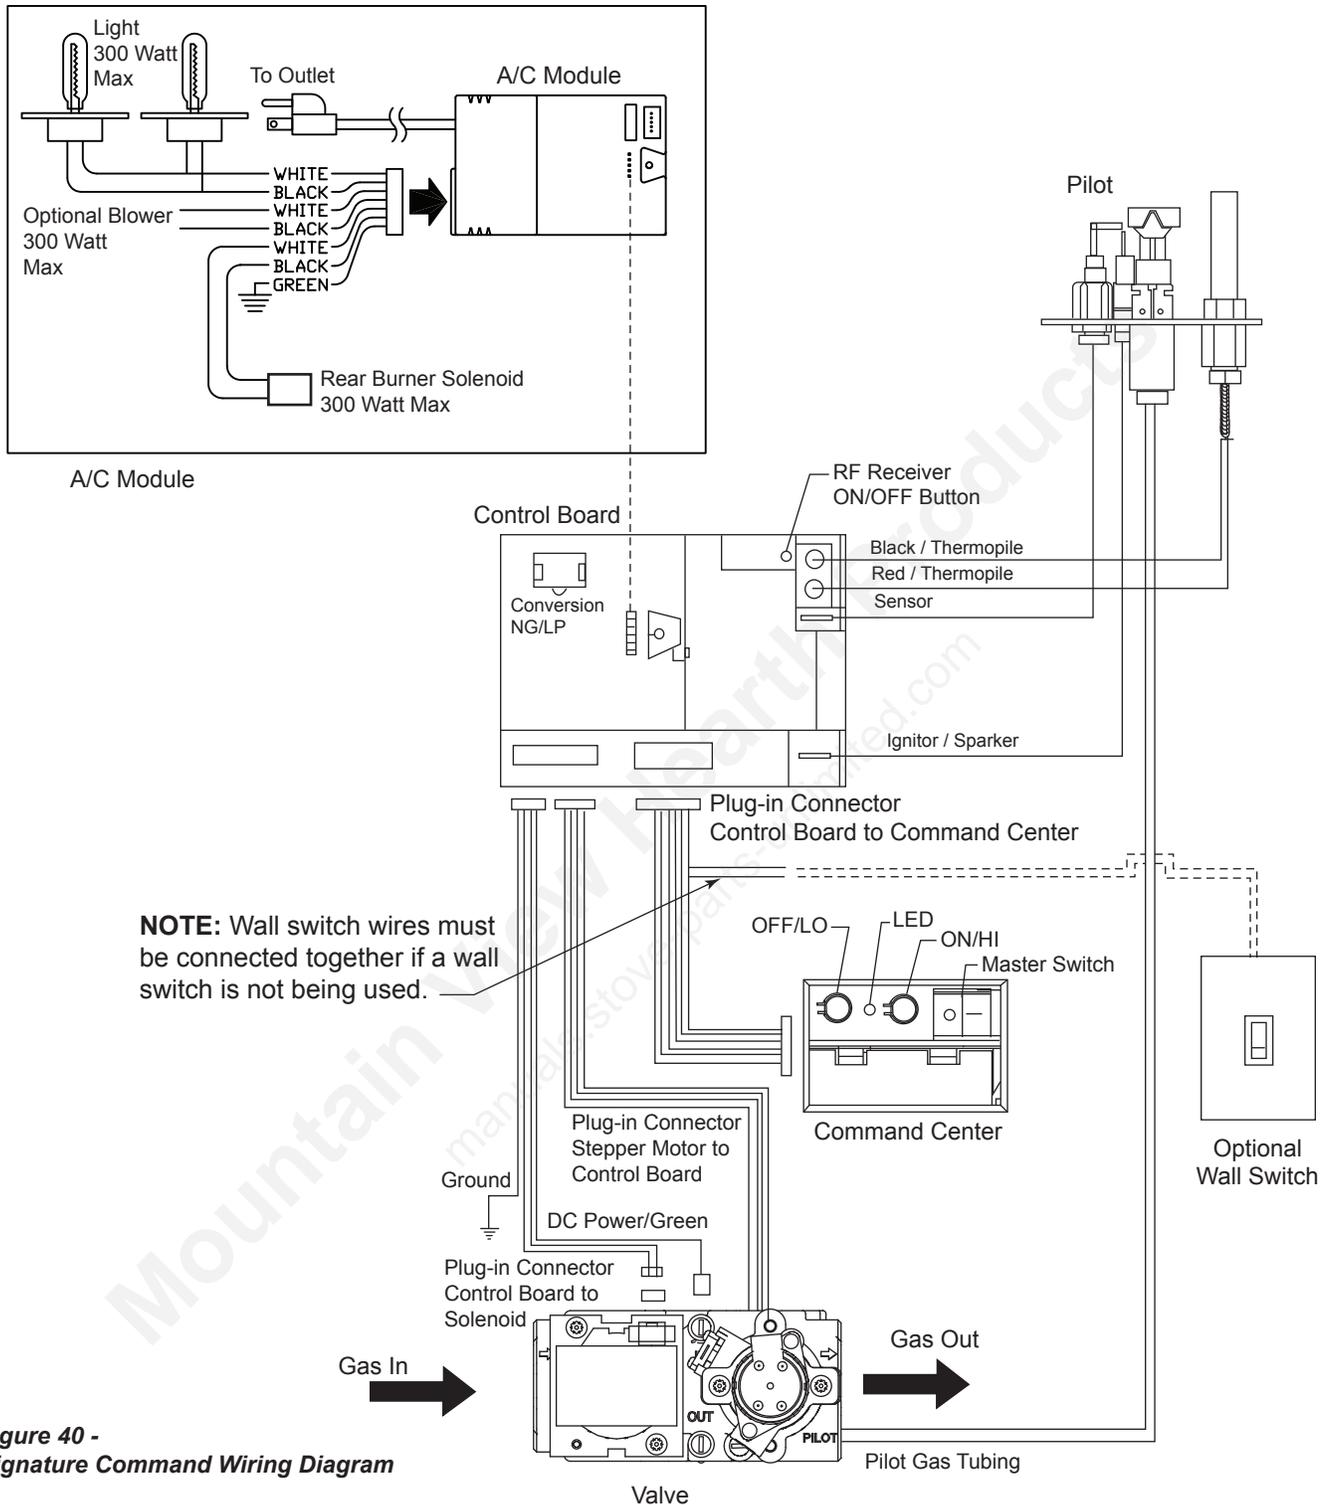

Figure 40 - Signature Command Wiring Diagram
The wall switch wire connection is located off the 2 ft. wire harness from the control box to the command center. *Figure 40*. The connection is labeled “Wall Switch”. Unplug the male and female connectors and connect the two (2) low voltage wires provided. Run wire to desired location on wall. Up to 50 ft. of 18 ga. wire may be used if necessary. Attach wires to wall switch. Mount the wall switch in to junction box and screw on cover.